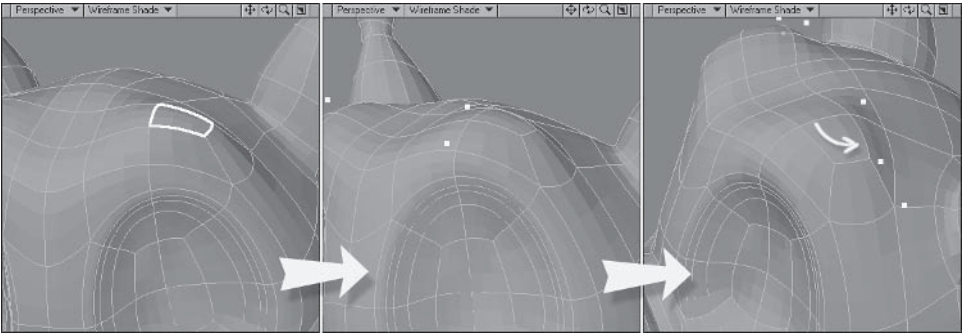

Figure 5.3-87. Forming the eyebrows.
10. With the geometry made, we can start adjusting the shapes. Turn **Symmetry** back on, select the polygon shown in Figure 5.3-87, and move it up about **14 mm**.
12. Select the points shown in Figure 5.3-87 and move them back.